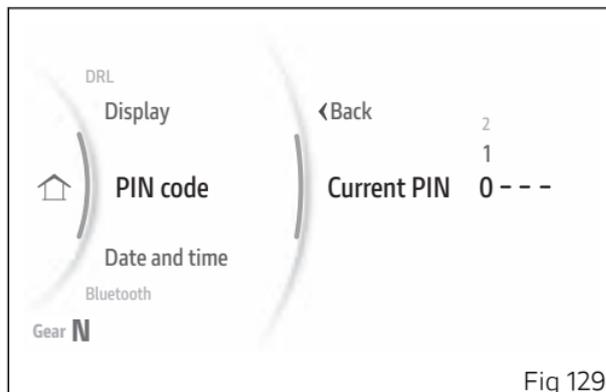

Fig 129
- The display shows "Current PIN", press ENTER (3) to proceed with entry (Fig 129).